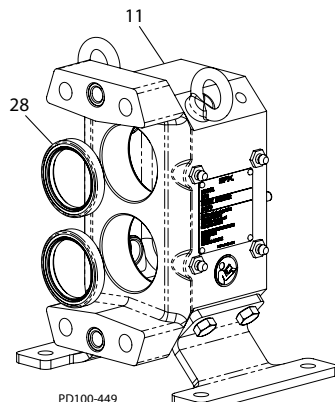

Figure 44 - Install Front Seals
Install new front bearing seals (Figure 44, item 28) into the gear case (item 11) with the primary lip facing toward the inside of the gear case. The seals should be flush with the face of gear case.